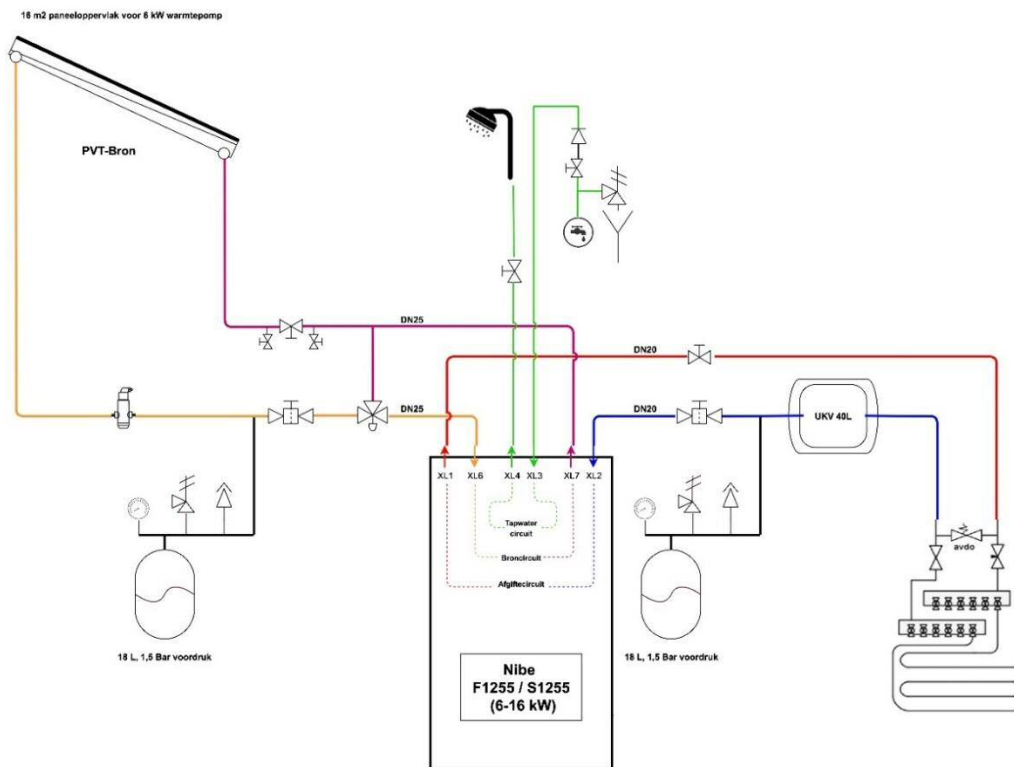

Figure 8.3-a general hydraulic plan Triple Solar system
- See the general hydraulic plan Triple Solar system, Figure 8.3-a
- In the suction side of the system. This is in the warm side of the well! (see diagram in figure 8.3-a). (This is different from continuous heating installations where the expansion vessel is also placed in the suction side, but in the cold side).